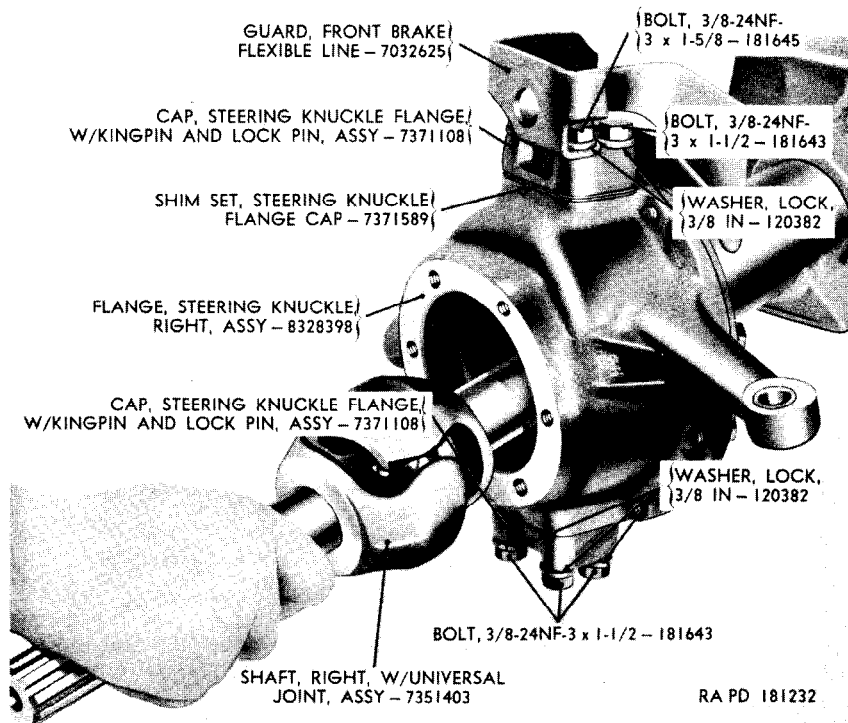

Figure 96. Removing front axle shaft with universal joint.
d. *Remove Axle Shaft Assembly*. Pull front axle shaft with universal joint assembly directly out of steering knuckle flanges (fig. 96).
a. *Remove Front Brake Flexible Line Guard*. Remove the two bolts and lockwashers securing the front brake flexible line guard (fig. 96) and lift guard from the top steering knuckle flange cap assembly.